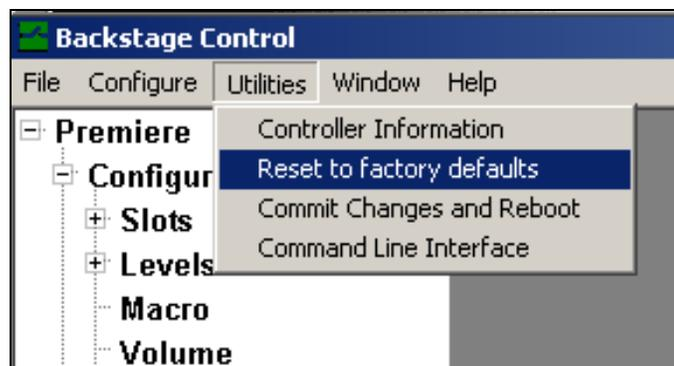

FIGURE 100: Accessing the Reset to factory defaults Screen
1. Access the Reset to factory defaults screen (see Figure 100) by clicking on Utilities in the main menu bar.